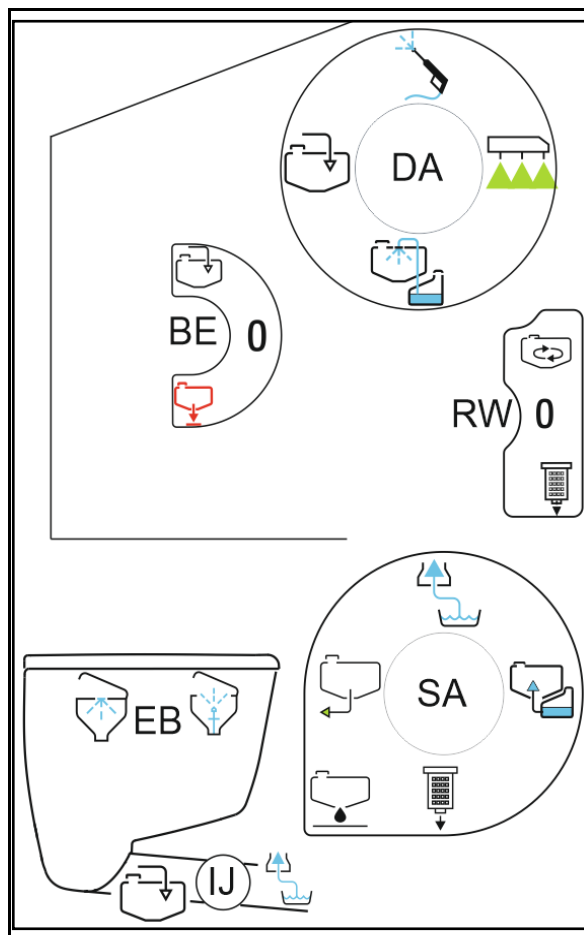

Fig. 113
5. Unscrew the cover of the suction filter (Fig. 113/2).
6. Activate the relief valve on the suction filter (Fig. 113/1).
7. Remove the cover with suction filter (Fig. 113/3) and clean with water.